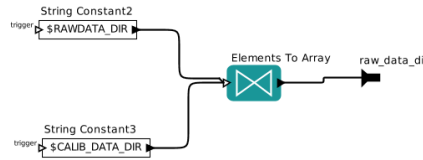

Figure 2: *Directory preparation for the DataOrganizer.*
5. Now we start putting actors which represent the real workflow. The first thing is to combine the calibration directory and the input directory in a single input that will be fed into the data organization. For that we put two `StringConstant` actors with the values `$RAWDATA_DIR` and `$CALIB_DATA_DIR`. Make sure that the `firingCountLimit` parameter is set to 1 in both cases. Then we connect the output of these two actors to an `ElementsToArray` actor. Figure 2 shows the result of that.